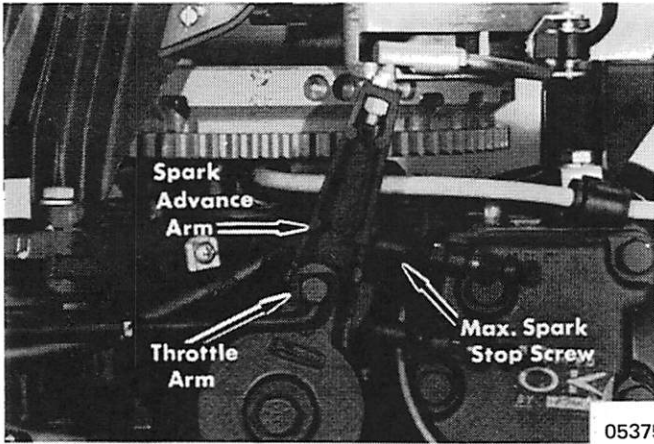

Figure 5. Setting Maximum Spark Stop Screw
6. Advance engine speed to 5000 - 5200 RPM. Adjust spark stop screw (Figure 5) to align flywheel timing mark (white line) in timing window. Tighten locknut.
7. With spark arm against stop but not actuating throttle arm, (Figure 5) adjust throttle pickup arm to just touch